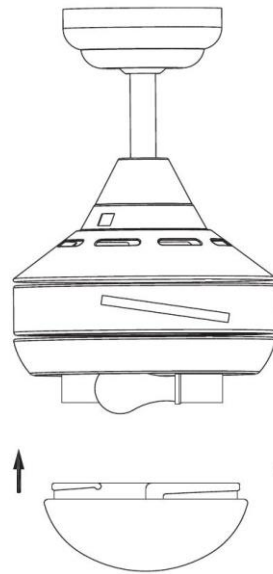

Fig.7
7. Carefully place the glass shade cover over the lamp and twist clockwise to lock it. The glass shade must be inserted correctly before you can lock it in, so check the locking mechanism when performing this task. Fig.7.